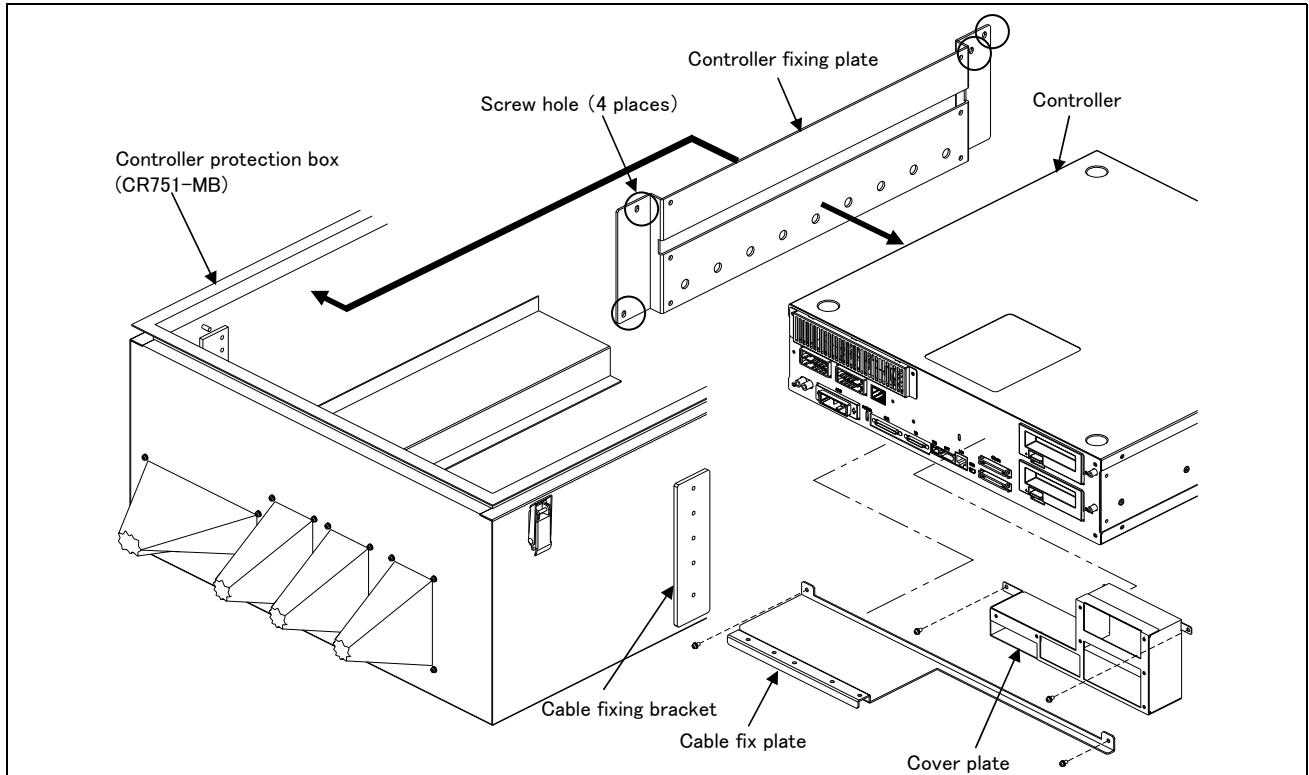

Fig. 3-8 : Controller installation drawing
*When the controller is installed, the cable fix plate and the cover plate is removed, so please keep it. (Refer to Fig. 3-8.)